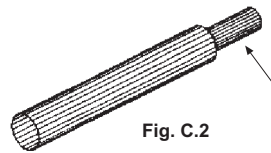

Fig. C.2
- 1) Strip the plastic cable with a plastic cutter, uncovering approximately a 7 mm section of the Fibre Optic (see Fig. C.2)